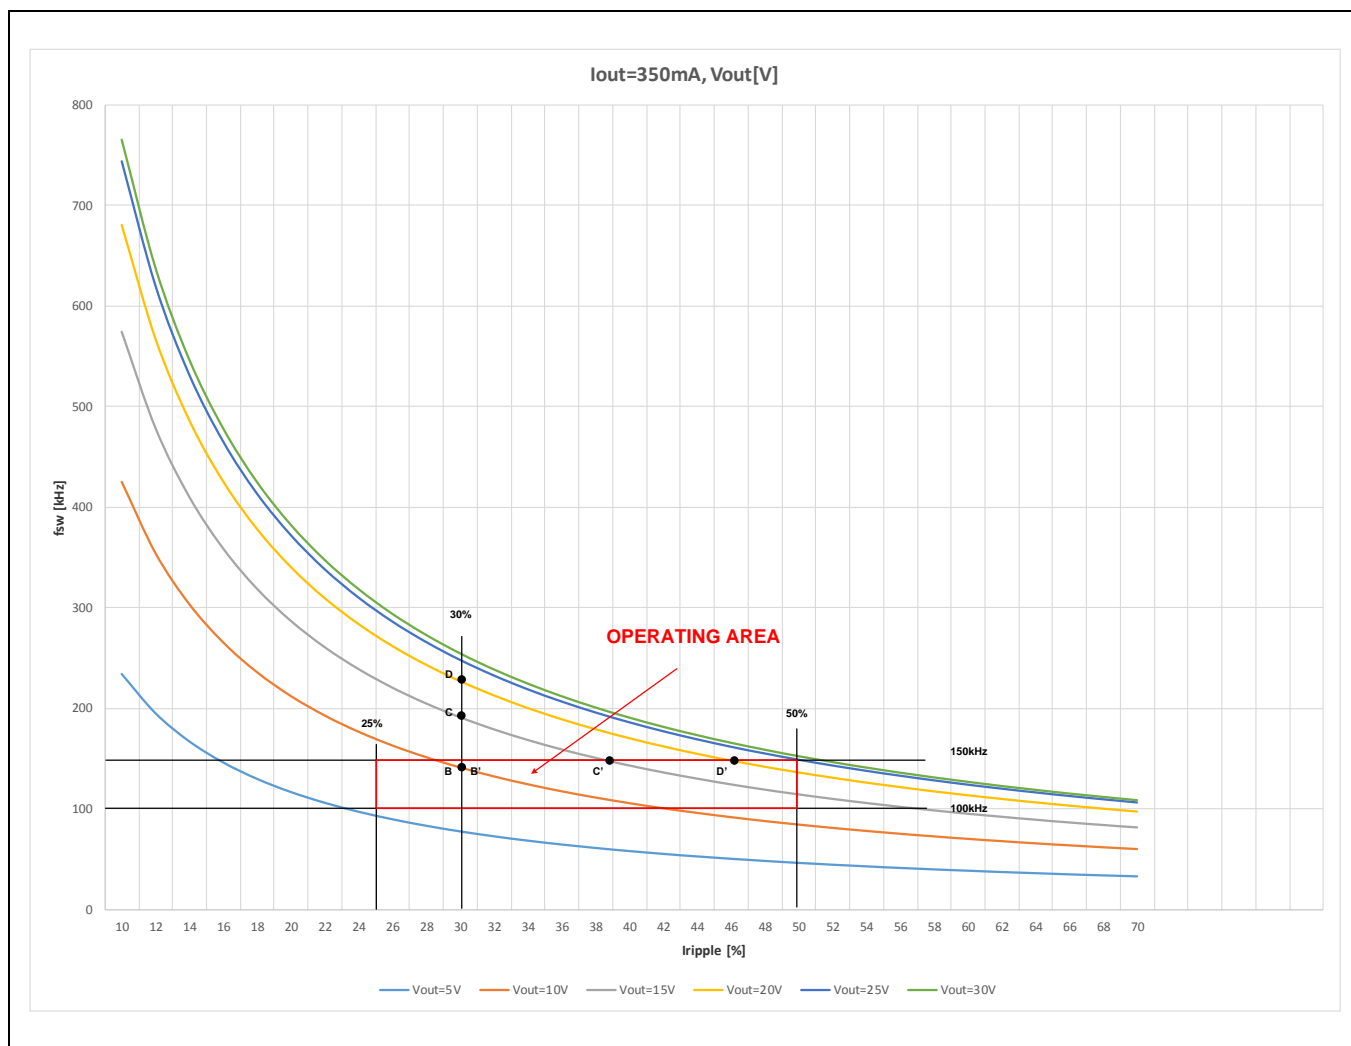

Figure 16. FRC Algorithm Example – Operating Point successfully put into Operating Area
- 1) If the achieved operating frequency is within allowed borders (defined by  $f_{sw\_min}$  and  $f_{sw\_max}$ ), and the starting value of the ripple is within allowed absolute ripple borders (defined by  $I_{ripple\_min}$  and  $I_{ripple\_max}$ ), no correction will be performed (e.g.  $V_{out} = 10 \text{ V}$  – orange curve, operating point B is in the operating area,  $B=B'$ , see Figure 16).
- 2) If the achieved operating frequency is above the maximum allowed switching frequency  $f_{sw\_max}$  (e.g.  $V_{out} = 15 \text{ V}$  – grey curve, point C;  $V_{out} = 20 \text{ V}$  – yellow curve, point D), the firmware will start to slowly increase the ripple in order to lower the operating frequency (the slope of this increasing ripple depends on the buck inductance  $L_{EXT}$ , see equation (12) on page 17). It will continue increasing the ripple until the frequency falls below the high threshold  $f_{sw\_max}$  (corrected points C' and D', see Figure 16).